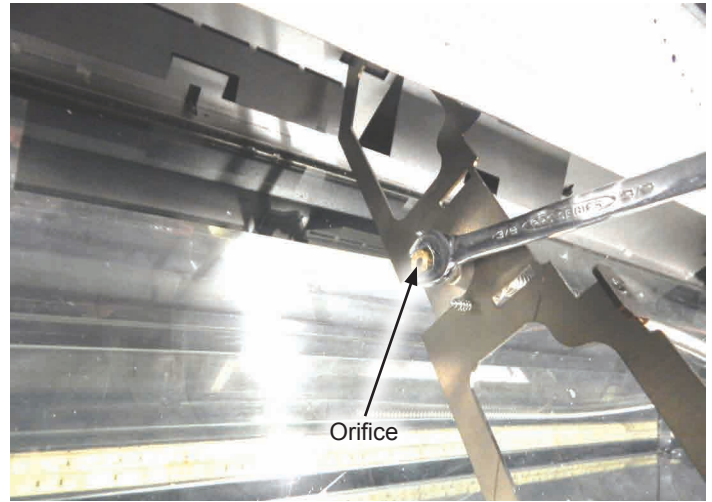

Figure 6
12. Using a 3/8" wrench, remove the #37 orifice from the orifice holder and discard. **See Figure 6.**
13. Install the new 1.65mm orifice into the orifice holder. Do not overtighten. **See Figure 6.**